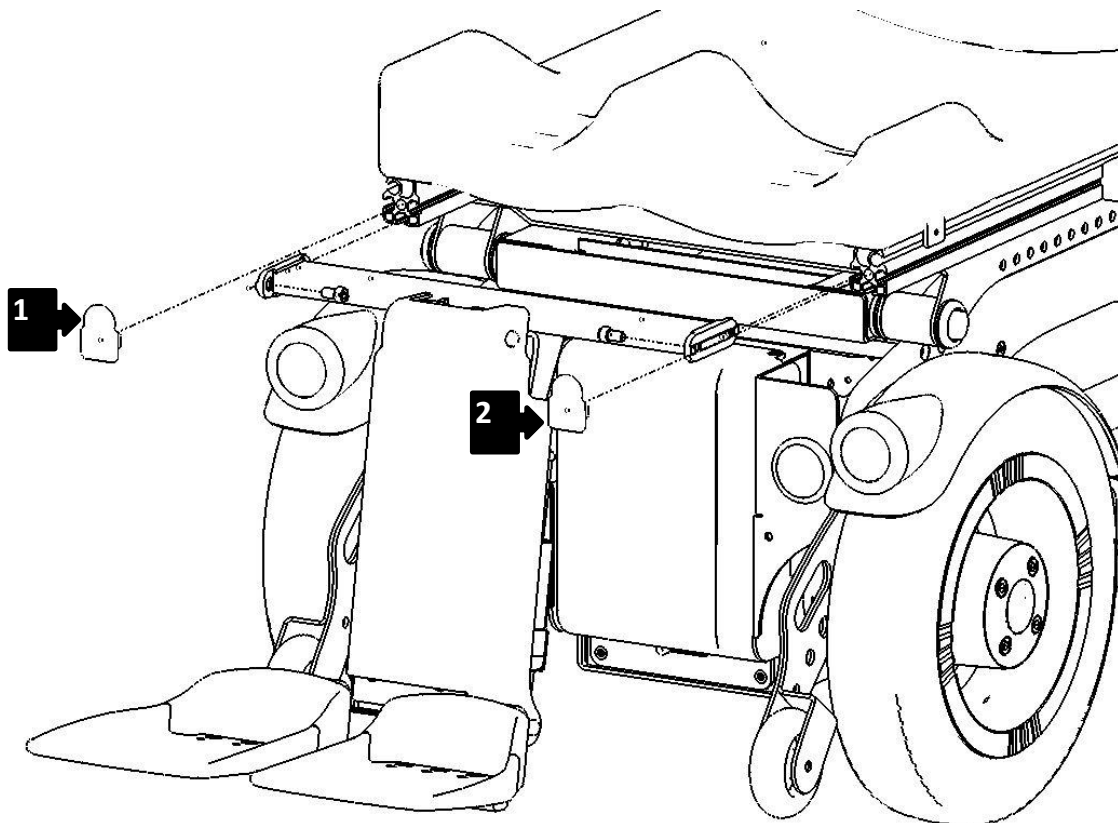

Figure 80
Remove the seat cushion. Seeing Figure 80 remove the caps (1) and (2) and unscrew the 4 screws of the legrest beam.